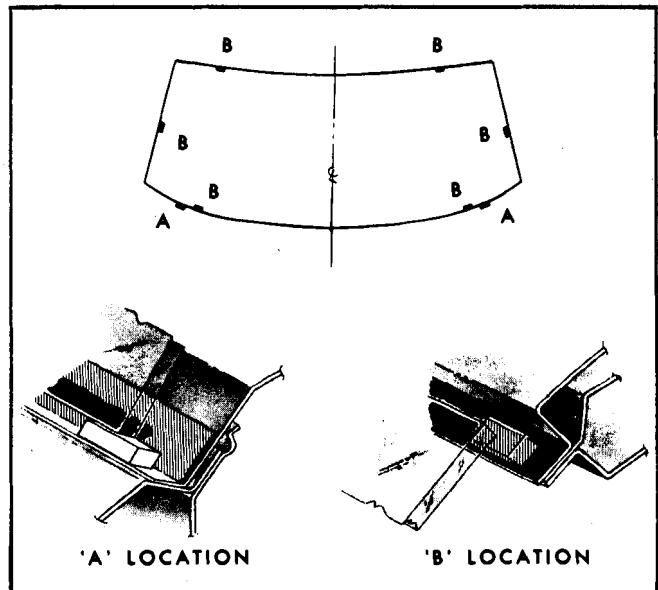

Fig. 4-6-Glass Spacer Installation
4. Using black weatherstrip adhesive or adhesive caulk material, cement flat rubber spacers No. 4459429 or equivalent to window opening pinchweld flanges. As shown in Figure 4-6,
5. Figure 4-6, location "A", illustrates rectangular spacers positioned in typical back window installation. Re-install metal supports at lower edge of windshield glass (in lieu of two lower "A" spacers indicated in back window installation).